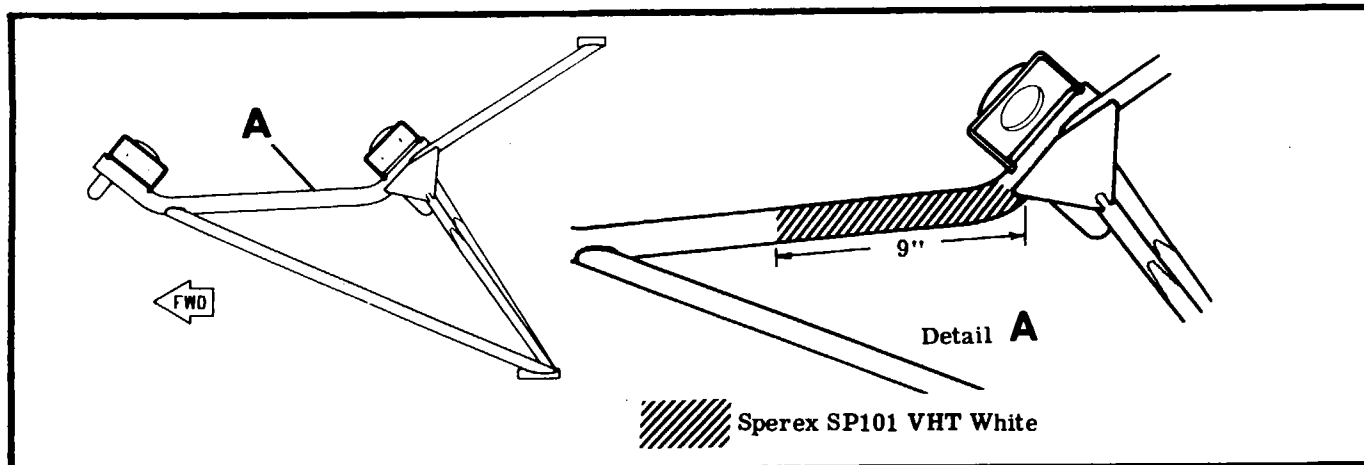

Figure 18-1. Refinishing Engine Mount.
18-4. REFINISHING ENGINE MOUNTS. (See figure 18-1.) After completing engine mount repairs as outlined in Section 17 of this manual, refinish with Part Number EX2219 (Ameron-Enmar Finishes, 16116 East 13th St., Andover, Kansas 67230) (316) 733-1361 heat-resistant black enamel. Degrease and scuff sand or grit blast entire area to bare metal. Spray enamel to a dry film thickness of 0.001-inch to 0.0013-inch, and cure at 250° F for 15 minutes. Part can be handled as soon as cool to touch. For areas which are in close proximity to the engine exhaust stacks, paint with Sperex SP101 VHT White (Sperex Corp., 16131 So. Maple Ave., Gardena, Calif., 90248) (213) 323-6162. Refer to Cessna Single-Engine Service Letter No. SE 78-27 for surface preparation and painting procedures.